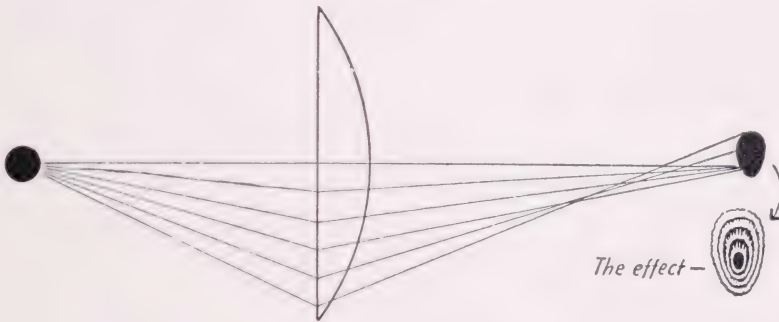

FIG. 22. THE EFFECT OF COMA
*Coma*. This is the variation in the size and location of the image produced by the various parts of the lens. The result of this lens fault is that *points* of light at the edges of the image, traveling obliquely through the lens, emerge as *tear drops* of light. See Fig. 22.